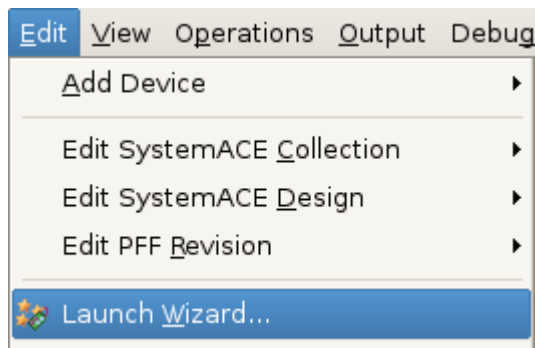

Figure 10: Launching iMPACT Wizard
3. If it does not launch, select **Edit > Launch Wizard** (Figure 10).